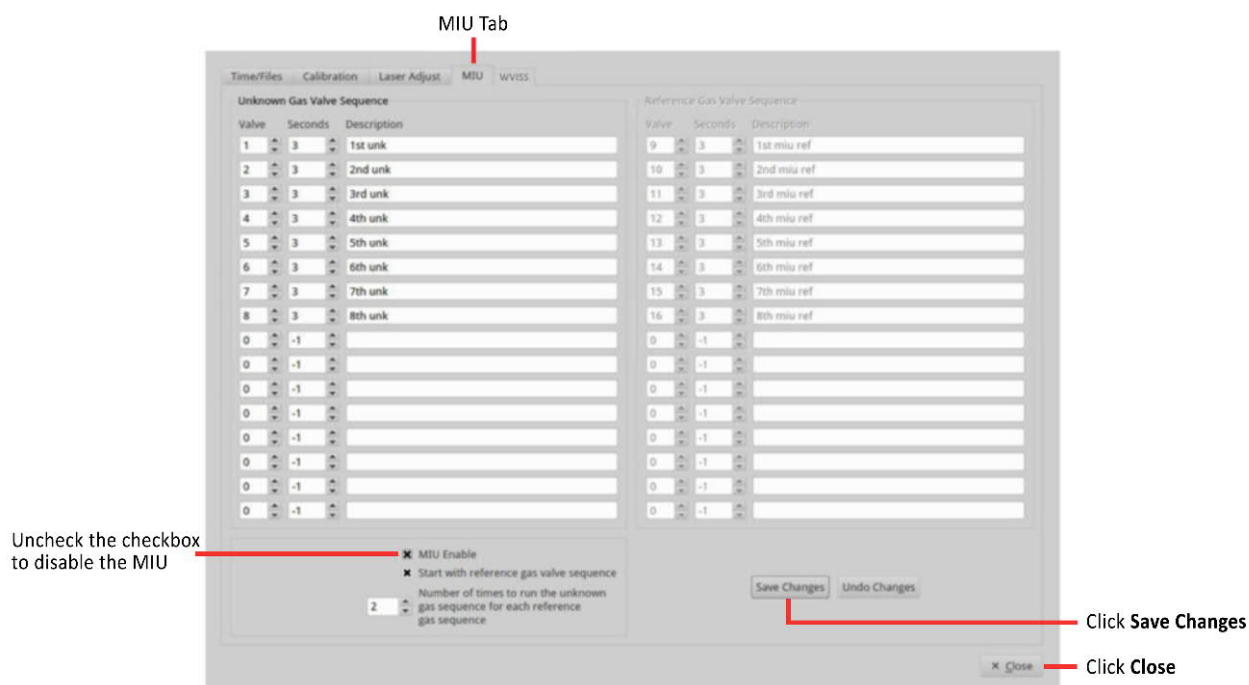

Figure 108: Control Menu for the (Optional) Multi-Port Inlet Unit (MIU)
- ii. Click on the MIU tab at the top of the *Setup* screen. (Figure 108)
- iii. Uncheck the checkbox at the bottom of the screen to disable the MIU. (Figure 108)
- iv. Click Save Changes. (Figure 108)
- v. Click Close to exit the *Setup* menu. (Figure 108)